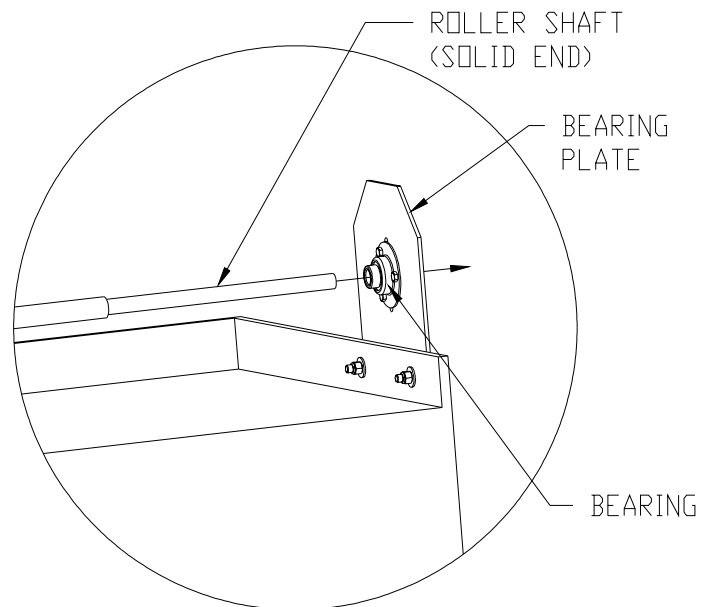

FIG. 10-1
3. Slide the solid end of roller bar thru bearing and bearing plate (opposite bearing plate where direct drive motor will be mounted) . See figure 10-1.